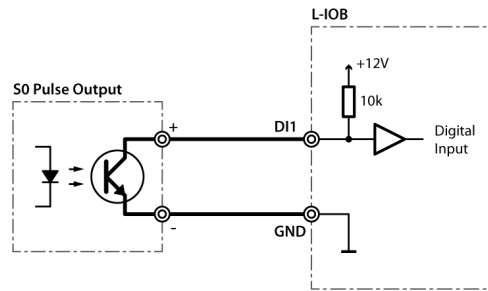

Figure 31: S0 pulse meter connected to DI
S0 pulse meters must be connected to digital inputs (DI) as shown in Figure 31.